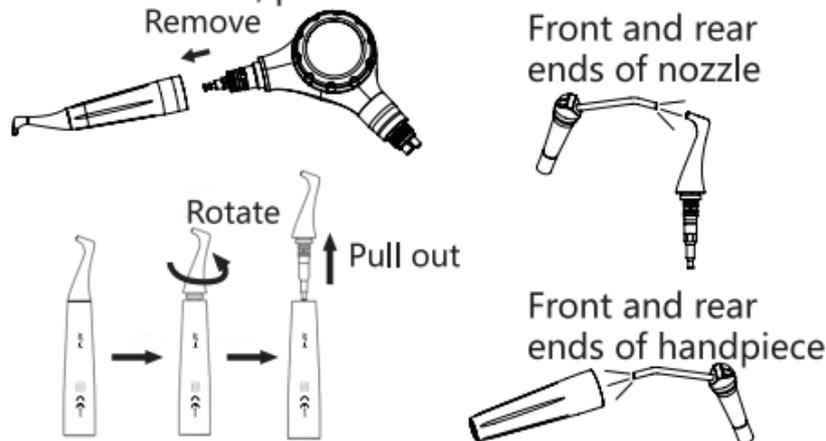

Figure 10 Schematic diagram of handpiece cleaning
- ① Remove the handpiece of the air polishing gun, unscrew the spray-head and pull out it, as shown in Figure 10;
- ② Aim the air gun at the nozzle and blow out the powder inside the nozzle;
- ③ Use an air gun to blow the front and rear ends of the handpiece to clean the remaining moisture on the handpiece.
- ④ If the nozzle is blocked, please use the needle to clear it.